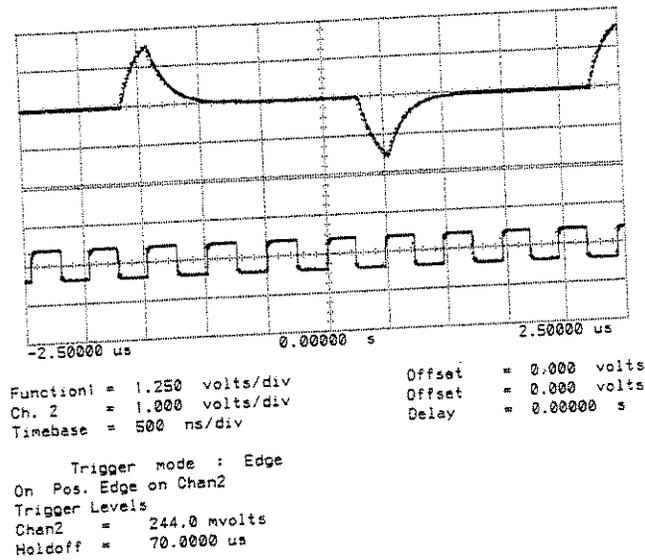

Figure 8-29 Pulse Shape Network Adjustment (Data Output)
11. Reselect Page 4 [JITTER TRANSFER FN] and set to Modulation [INTERNAL] [400HZ] with the Tx Jitter Amplitude P-P field reset to [0 REF]. Check that the Oscilloscope display is as shown in Figure 8-29 (adjust the pulse shape network to obtain the desired waveshape on channel A of the Oscilloscope).